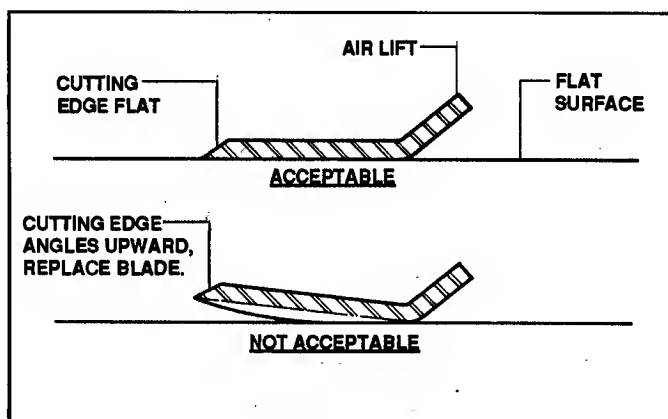

FIGURE 11.12
1. After removing the blades, lay each on a smooth, flat surface to check for straightness. Both cutting edges should be flat or angled downward, **NEVER** upward! See Figure 11.12.